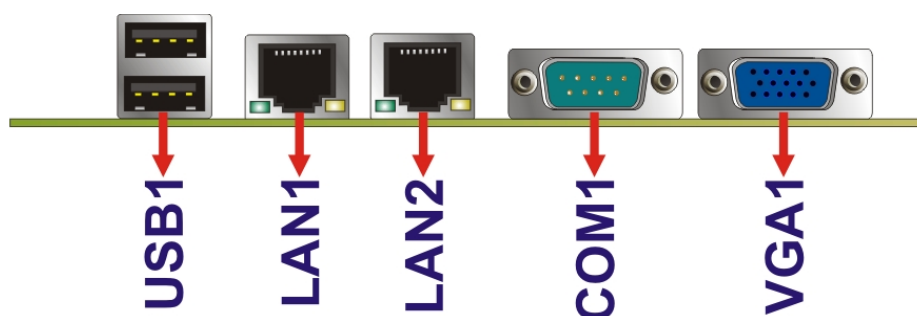

Figure 3-19: External Interface Connectors
Figure 3-19 shows the WAFER-PV-D4251/D5251/N4551 motherboard external interface connectors. The WAFER-PV-D4251/D5251/N4551 on-board external interface connectors are shown in Figure 3-19.
CN Location: See **Figure 3-19**
- CN Location:** See **Figure 3-19**